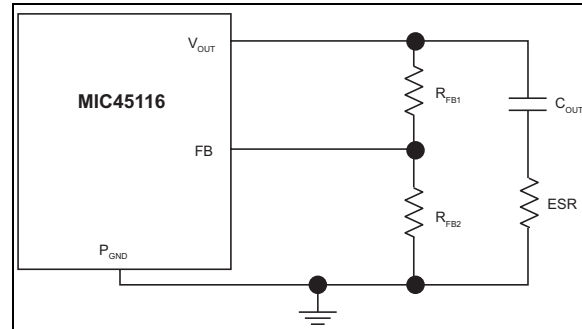

FIGURE 5-2: Enough Ripple at FB.
- Enough ripple at the feedback voltage due to the large ESR of the output capacitors (Figure 5-2). The converter is stable without any ripple injection.